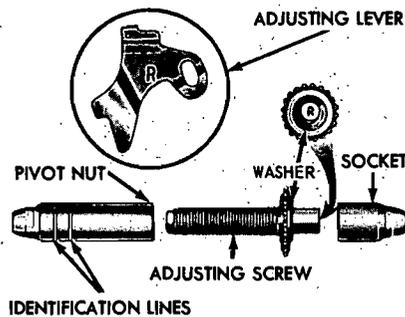

FIG. 16—Adjusting Screw and Lever Identification
11. Hook the cable hook into the hole in the adjusting lever. The adjusting levers are stamped with an R or L to indicate their installation on right or left brake assembly (Fig. 16).